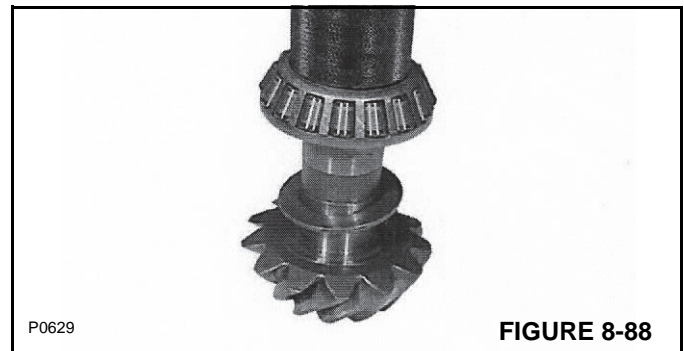

FIGURE 8-88
- Insert the shims (**S**) chosen in step 7 on the pinion shaft with the chamfer edge against the gear (Figure 8-88). Using SPECIAL TOOL P/N 1901772 press the bearing onto the pinion shaft. Be sure it is fully set. Install the washers and new elastic spacer onto the shaft.